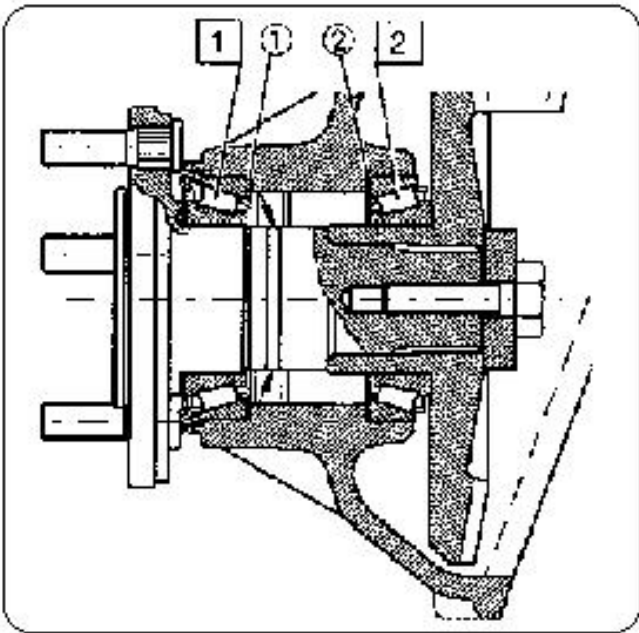

Figure 32
Lift the axle shaft upwards using two levers (screwdrivers or assembly bars). Read the bearing clearance on the dial gauge. Remove the axle shaft and remove the outer race of the taper roller bearing from its bore using a 3-leg puller. Form a pack with the shims (pos. 1) and fit them in the reduction gear case (Figure 32).